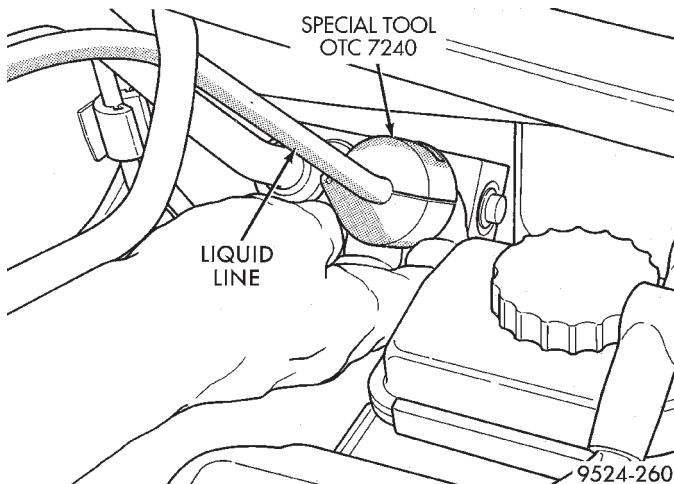

Fig. 59 Use Special Tool 7240 For Quick Connect
- (3) Disconnect quick connector on expansion valve. Remove liquid line from expansion valve. Use Special Tool kit 7193 to disconnect quick connector (Fig. 59).